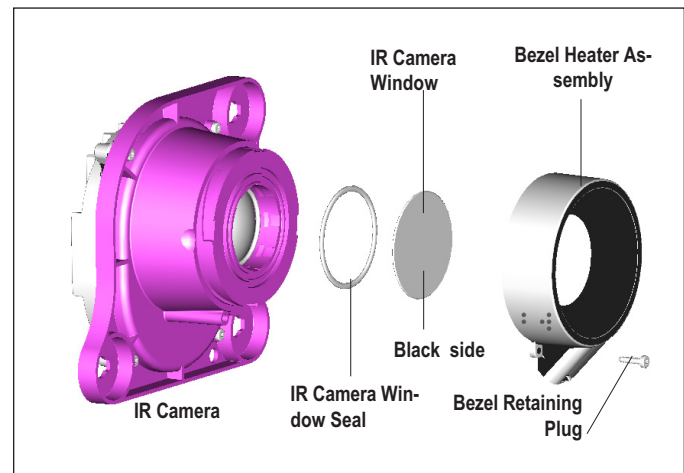

FIGURE 26 - IR CAMERA WINDOW AND BEZEL RETAINING PLUG
4. Lay the IR camera face-up for easy access to the bezel retaining plug. Refer to Figure 26.